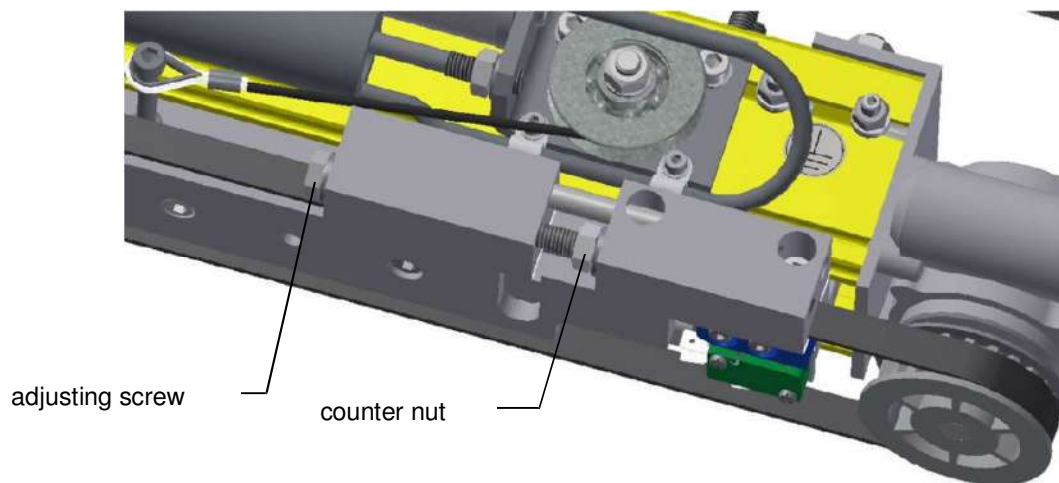

Figure 10: Belt tensioning device
Readjust the belt tension on the tensioning device (**Figure 10**), if different. First loosen the counter nut. Then readjust the adjusting screw until obtaining the requested belt tension. Then retighten the counter nut (Torque = 10 Nm).
- 2) Loosen the belt tension on the carriage until the toothed belt can be removed from the motor (Figure 10)
- 1) Loosen the belt tension (Figure 10)
- 2) Loosen the belt tension (Figure 10) until the belt has loose contact to the pulley